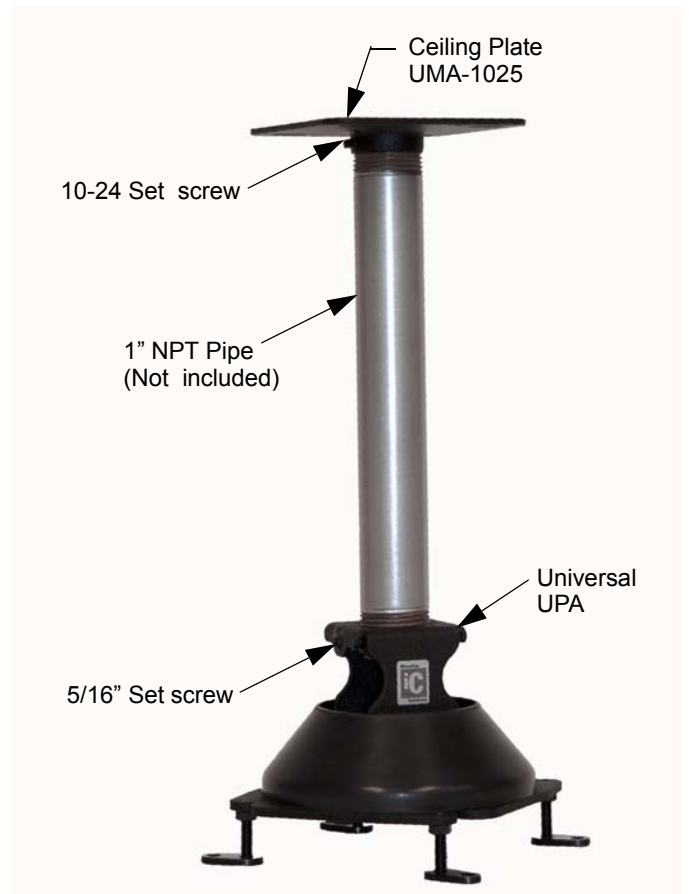

Figure 7. Attach 1" NPT Pipe to Ceiling Plate and Universal UPA (Example)
1. Thread the 1" pipe into the ceiling bracket until pipe threads are flush with the top of the ceiling plate (see Figure 7).
1. Thread the pipe into the Universal UPA until the pipe threads are visible below the collar in the UPA (see Figure 7).
2. Install 3/16" set screw into the back-to-back threaded holes in the Universal UPA (see Figure 7).